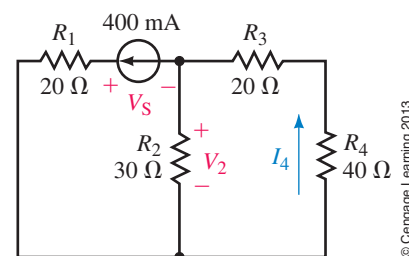

FIGURE 8–69
7. Verify that the power supplied by the sources is equal to the summation of the powers dissipated by the resistors in the circuit of Figure 8–68.